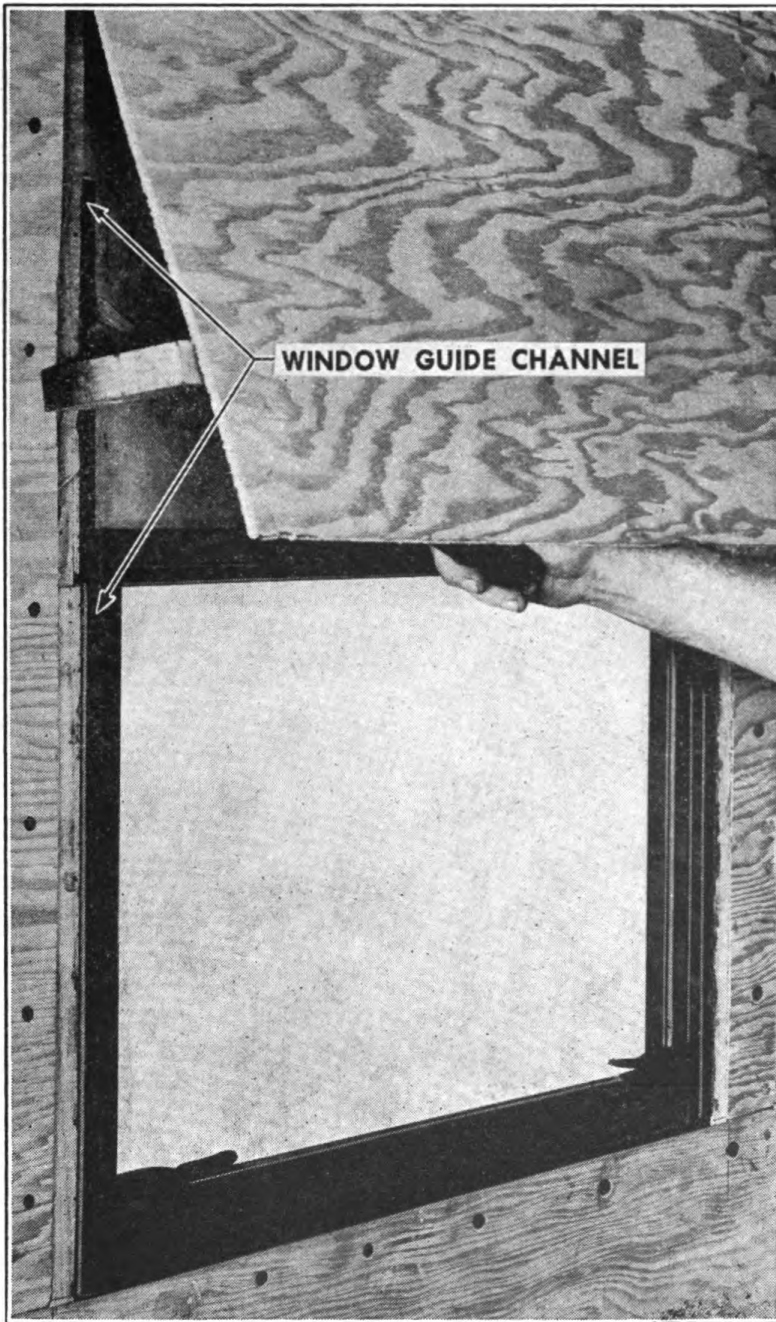

FIGURE 65. REMOVING GUIDE CHANNEL SCREWS.
b. Remove screws from slit wood panel, pull out on panel and place a short object between slit and window frame (Fig. 65).
c. Remove two screws from both sides of window guide channel. Leave top screw in place (Fig. 65). Raise window and continue removing screws from lower section of window guide channel.